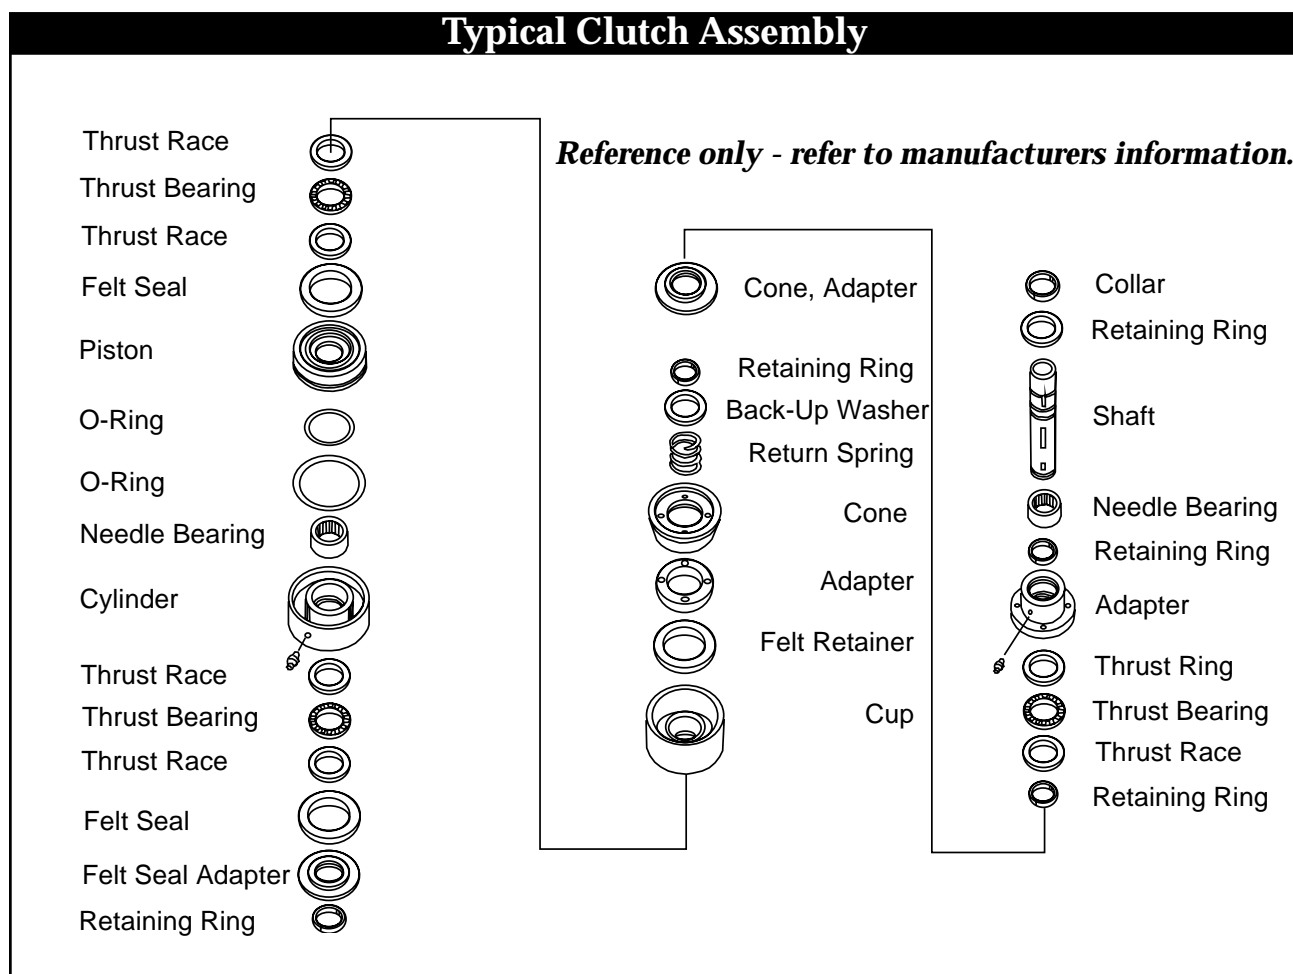

Figure 4-4. FS-40/50-RD Typical Clutch Assembly
Step 2—Inspect Drive Chain. Midway between sprockets, grasp each chain and wiggle it back and forth. You should be able to move it no more than a total of 1" (25 mm) as shown in Figure 4-4 (on the following page).
To disassemble the clutch, refer to the air clutch manufacturer's technical information (see Figure 4-4).